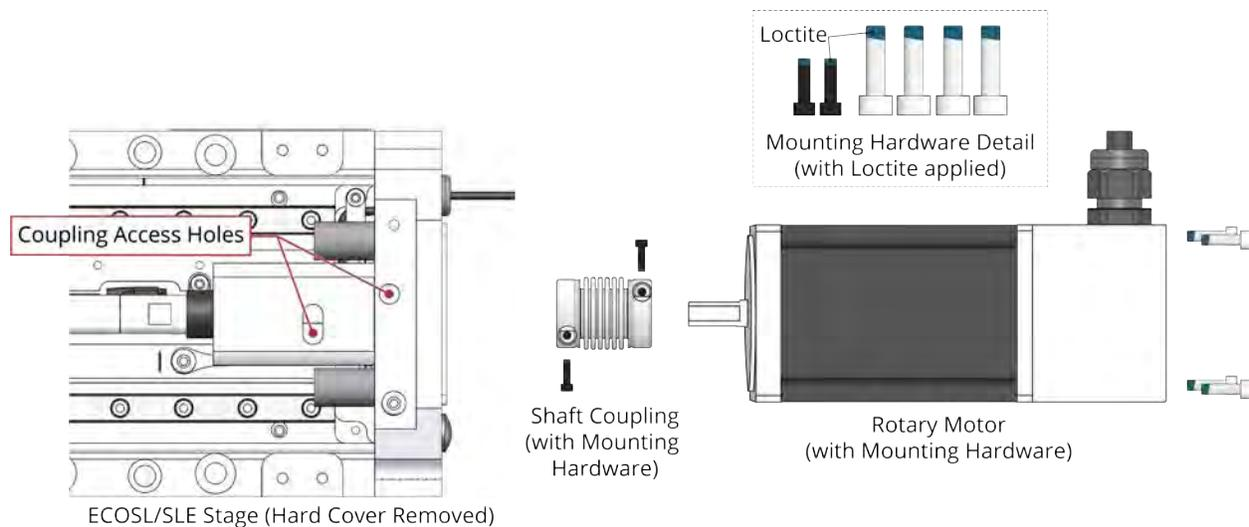

Figure 4-3: Motor Mounting Overview
IMPORTANT: Use Loctite 242 or Loctite 248 on the motor and coupling adapter hardware (Figure 4-3). Loctite products are printed with an expiration date. Before use, be sure that the expiration date is legible and the product has not expired.
2. Locate the Shaft Coupling access holes (refer to Figure 4-3).